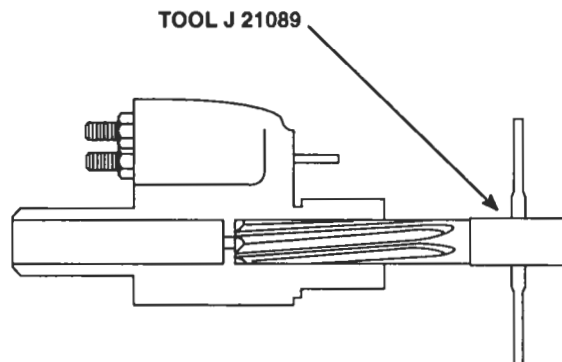

Figure 17. Cleaning Injector Body Ring
10. Carefully insert reamer J 21089 in the injector body (Figure 17.) Turn it in a clockwise direction a few turns, then remove the reamer and check the face of the injector body ring for reamer contact over the entire face of the ring. If necessary, repeat the reaming procedure until the reamer does make contact with the entire face of the ring. Clean up the opposite side of the ring in the same manner.